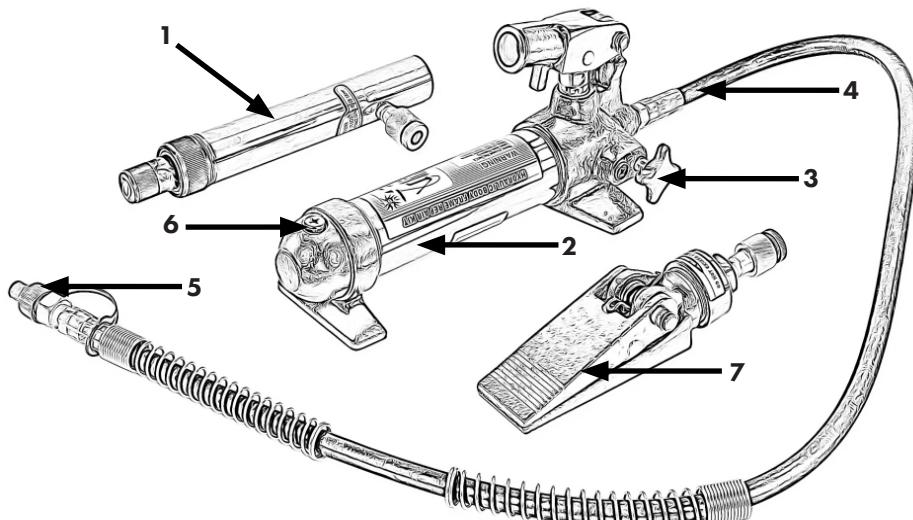

Fig. 1
Legend Figure 1
1. First remove the oil screw (6) and the nut on the oil reservoir. Have a suitable container ready to collect the draining used oil. Turn the appliance so that the oil can drain completely from the reservoir. (Fig. 1)
3. Turn the appliance so that the oil reservoir is facing upwards and close the stop valve (3).